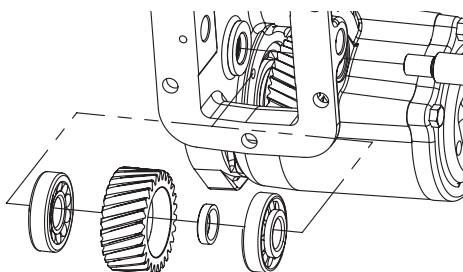

Figure 7 - Intermediate Gear Sub Assembly
14. Place lubricated O-Ring (28) into the groove in the housing located on the bearing cover (40) side of the PTO housing (23) and place lubricated O-Ring (4) into the groove in the housing located on the output cover (20) side of the PTO housing (23).
15. Slide this sub assembly into the PTO housing (23) to line up the intermediate shaft (37). See Figure 7.